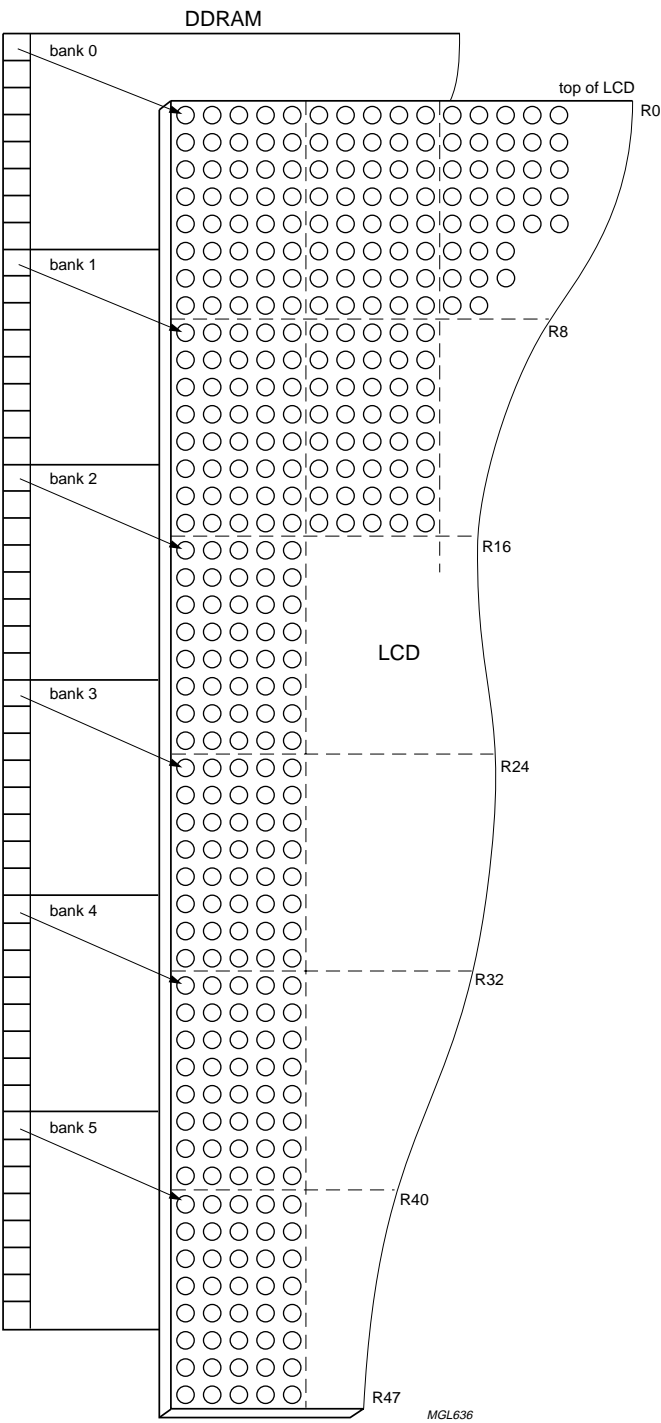

Fig.3 DDRAM to display mapping.
Data is downloaded in bytes into the 48 by 84 bits RAM data display matrix of PCD8544, as indicated in Figs. 3, 4, 5 and 6. The columns are addressed by the address pointer. The address ranges are: X 0 to 83 (1010011), Y 0 to 5 (101). Addresses outside these ranges are not allowed. In the vertical addressing mode (V = 1), the Y address increments after each byte (see